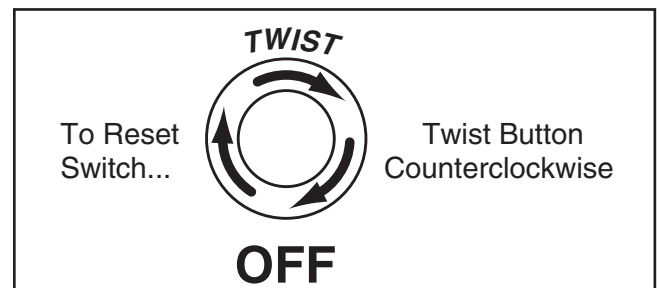

Figure 21. Resetting the switch.
7. Push the OFF button in, then twist it clockwise so it pops out. When the OFF button pops out, the switch is reset and ready for operation (see **Figure 21**).